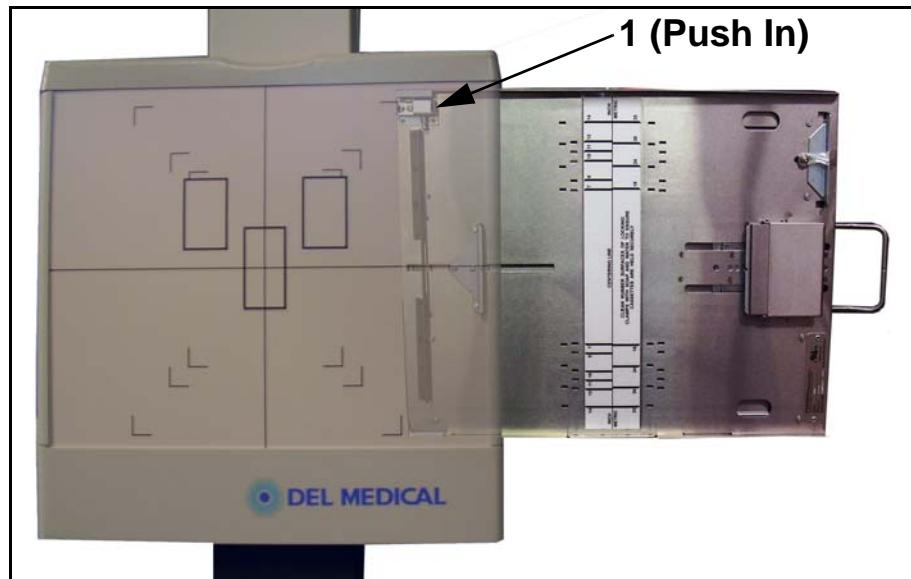

Figure 3-9. Cassette Tray Removal
- 2 While firmly pressing the cassette tray release latch (1 in Figure 3-9), pull the cassette tray completely out of the bucky.